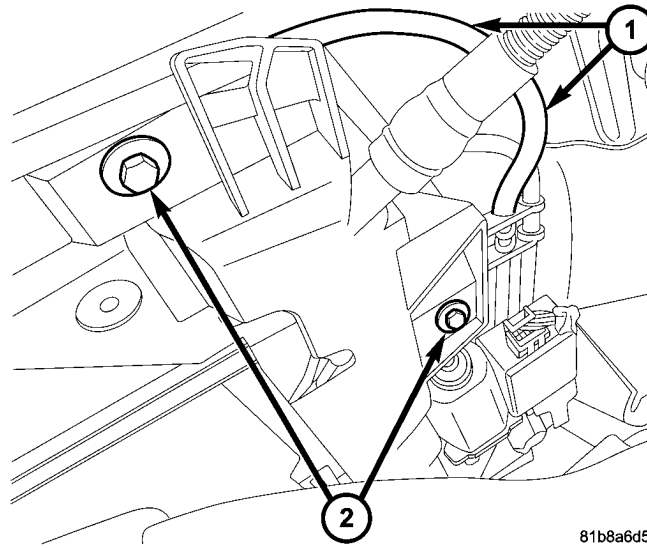

Fig. 4 KINK LOCATION
4. Remove 2 sunroof mounting fasteners, (Fig. 4).